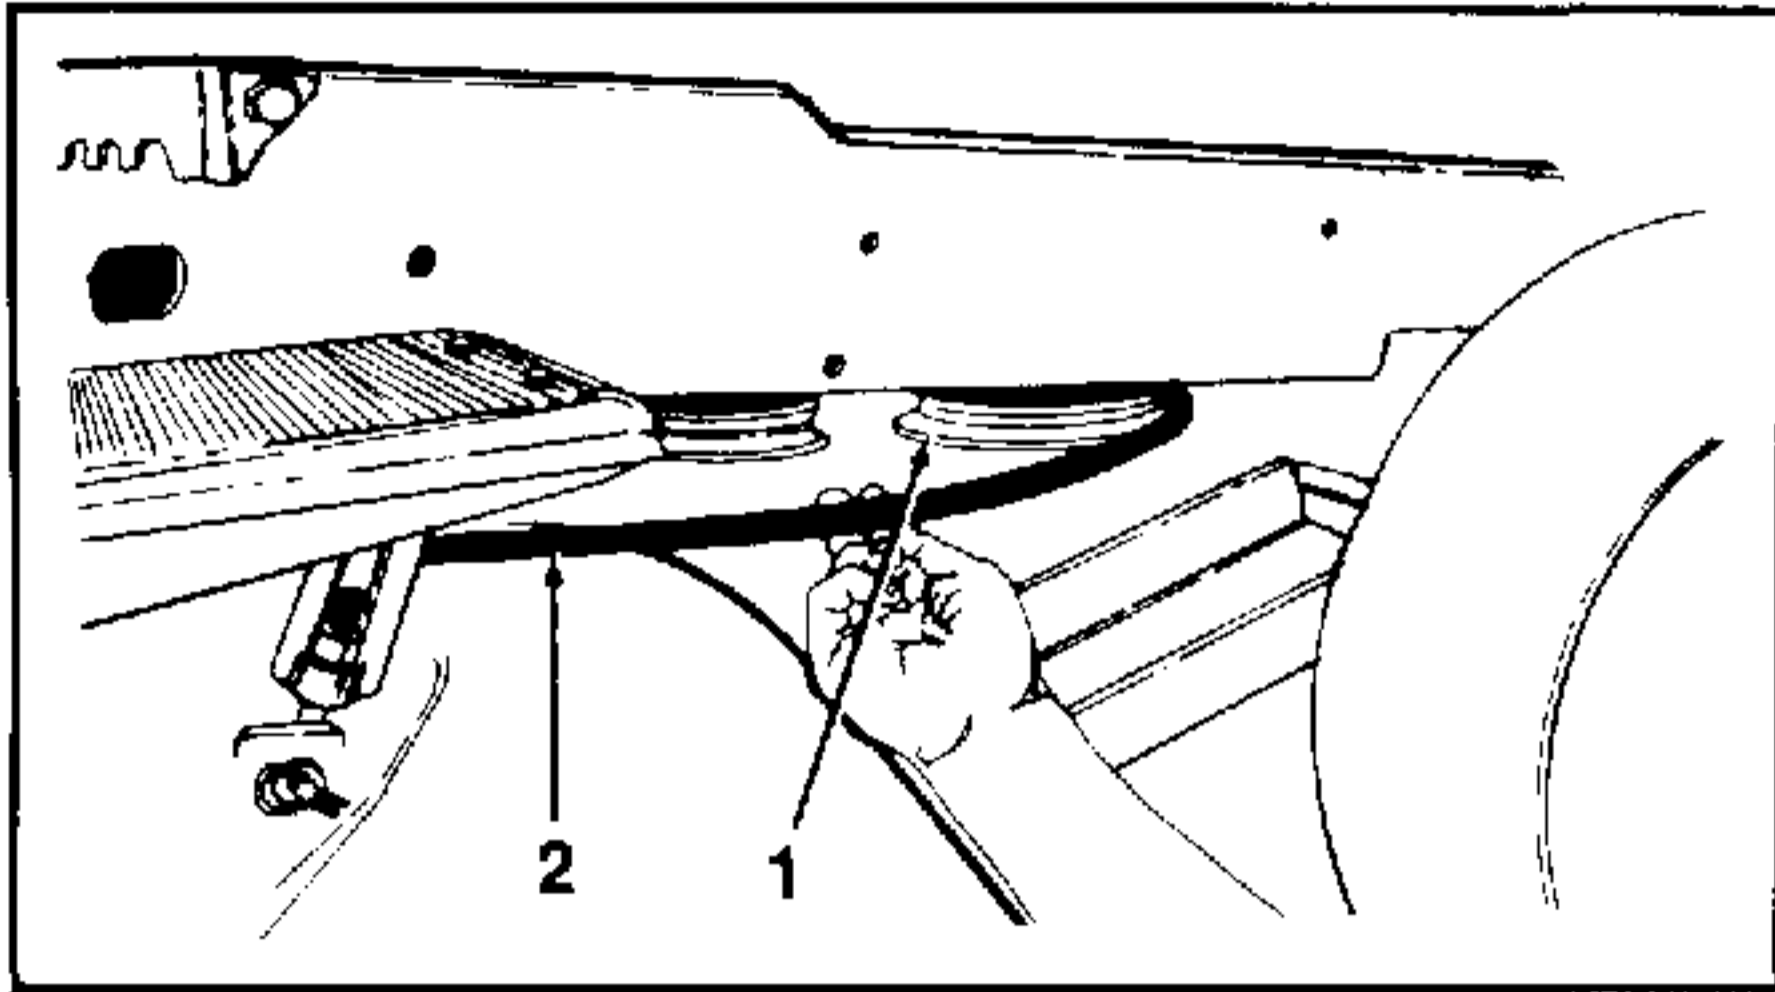

FIGURE 18.
3. Install spindle belt by slipping belt over electric PTO pulley. (See figure 18.)